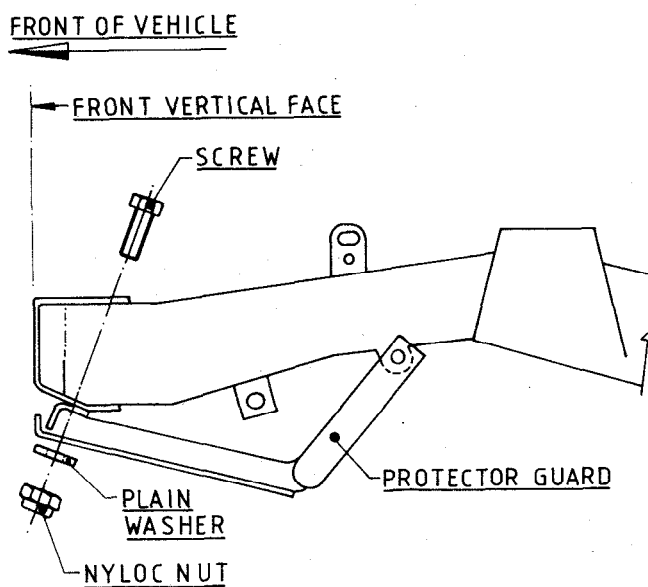

FIG 2 - FRONT PROTECTOR PLATE MOUNTING
- c. Raise the rear of the protector and fit the Left Hand Rear (LHR) protector mount to the corresponding chassis mounting hole using a new bolt, nut and washers (items 3, 4 and 5 from Table 1).
- e. Mark the centre of each front mounting hole and drill 13mm holes, as shown in Fig 2.
- f. Fit the front mounting bolts, washers and nuts (items 3, 6 and 7 from Table 1), as shown in Fig 2.
- g. On variants with winch, refit the winch fairlead plate to the winch housing using new mounting bolts (item 7 from Table 1), ensuring that Loctite 271 is applied to the bolt threads.
- h. Secure the centre bumper or winch fairlead to the chassis mount using new mounting bolts (item 7 from Table 1).